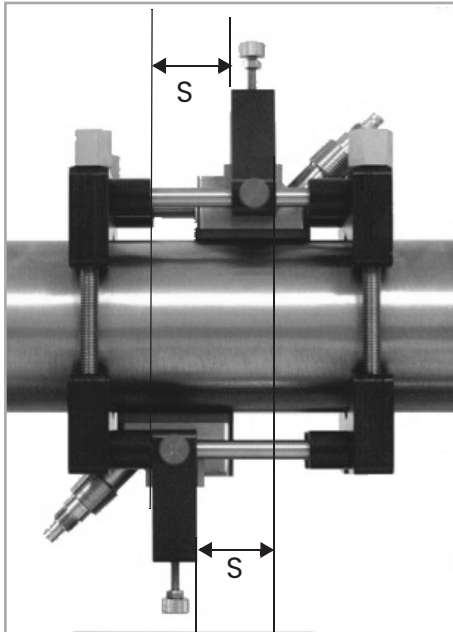

Figure 28: V4 fixture, top view
The overall spacing between yokes should be left edge to left edge, or right edge to right edge. Figure 28 below shows typical positioning.
4. In a similar manner, install the second transducer as shown in Figure 28 above.